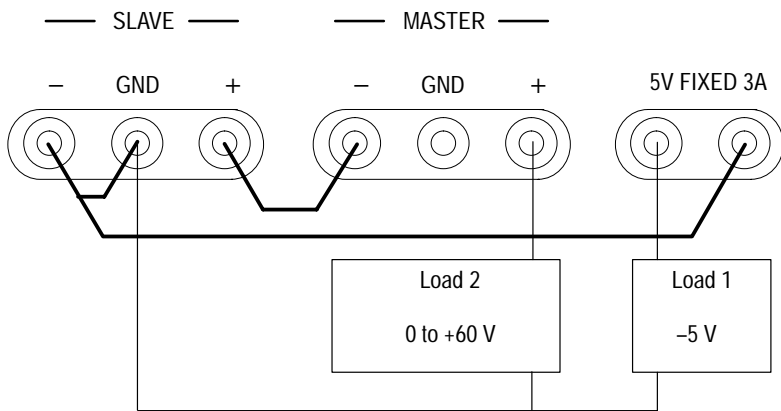

Figure 9: Independent Positive Stacked Application
Figure 9 on page 18 shows the PS280 or PS283 connected in a stacked manner to produce a variable output of 0 to +60 V ground-referenced. The FIXED power supply produces -5 V, ground-referenced. In this configuration, the red output terminal of the master variable power supply is the negative reference terminal because it is directly connected to the ground terminal.
2. Connect the outputs as shown in Figure 9.